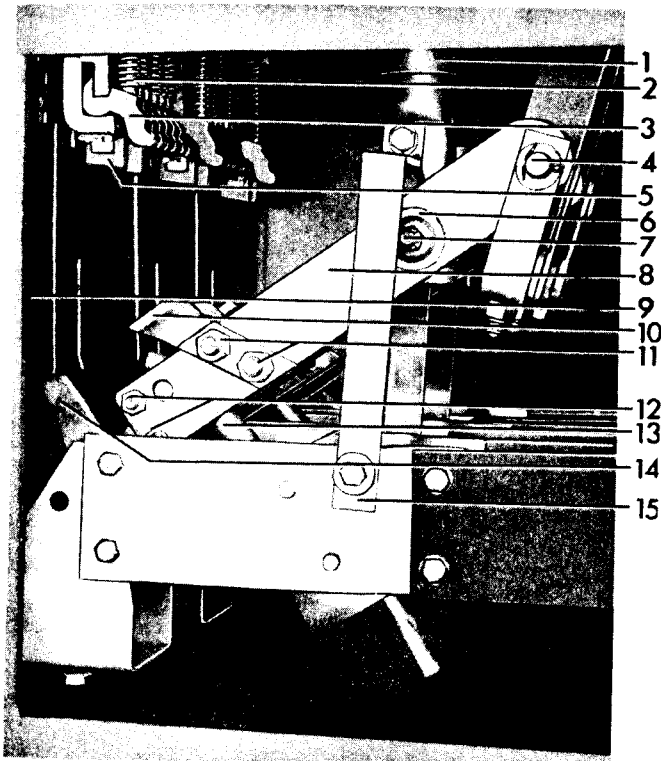

Figure 23. (8039588) Contact Assembly
1. Disconnect the contact braids (7) from the contact fingers by removing two bolts and locking plates (8).
3. To disassemble braids from stud plate remove one bolt (5).
4. To disassemble stud plate from contact support, remove two bolts (6).
5. Reassemble in the reverse order, make sure locking plates are properly re-assembled with bolts (8).
B. Movable Arcing Contact (14) Figure 23.
1. Remove the assembly bolts (12) making note of quantity and location of shims and spacers used between contacts and contact arms.
3. Close the breaker slowly to check that the movable arcing contact is approximately centered on the stationary arcing contact and that it does not rub on either side of the throat barrier (9).
D. Movable Primary Contacts (10) Figure 23.
E. Contact Arm Assembly (8, 10, 12, 14, Figure 23).
1. Remove connection bar (15).
2. Disassemble hinge pin (7), cup bearing (6), and operating rod pin (4) noting quantity and location of any washers and spacers used in assemblies.
3. The contact arm assembly including the piston assembly (13) can now be removed.
4. When reassembling, first insert piston tube assembly (13) into the booster cylinder and reassemble the cup bearing, making sure the silvered contact washers between the bushing and contact arms (both sides) are in place.
5. Reassemble operating rod pin (4) and connection bar (15).
3. Remove the connection bar (15) Figure 23, cup bearing (6) and hinge pin (7).
5. When reassembling, first mount the bushing and assemble the cup bearing (6), contact arm (8), and replace pin (7) being sure the silvered contact washers between the bushing and contact arms are in place. The contact surfaces at the hinge point of the contact blade and bushing should have a thin coating of D50H47 grease.